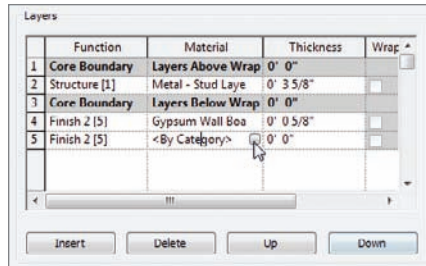

FIGURE 9.19 Clicking the [...] button in the Material cell
7. In the Layers field, as shown in Figure 9.19, click on row 4. This is the Finish 2 [5] Gypsum Wall Board row.
11. Click into the Material cell and click the [...] button, as shown in Figure 9.19.